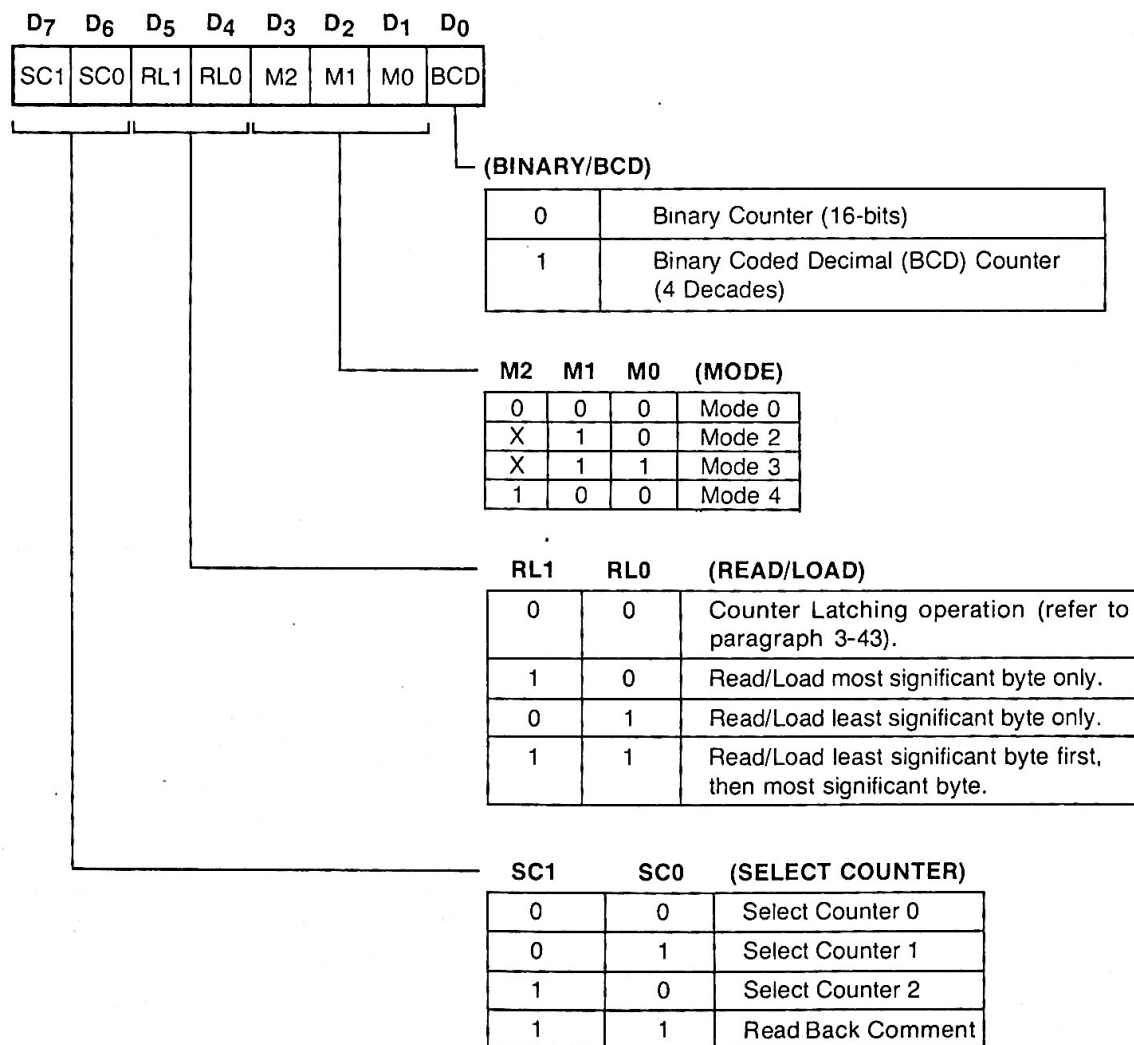

Figure 3-7. PIT Control Word Format
- a. A mode control word (Figure 3-7) is written to the Control register for each individual counter.
The mode control word (Figure 3-7) does the following:
The count mode selected in the control word controls the counter output. As mentioned earlier, Counter 0 and Counter 1 on the ISBX 352 board are dedicated to providing clocks for the 8273 device, the counters must be initialized in the square wave generator mode of operation (Mode 3). Counter 2 can be programmed to operate in any desired mode. As shown in Figure 3-7, Counter 2 in the PIT can operate in four of six possible modes, as follows:
- Write a mode control word for Counter 0 to I/O port address base+3. Note that all mode control words are written to base+3, since the mode control word must specify which counter is being programmed. (Refer to Figure 3-7.)